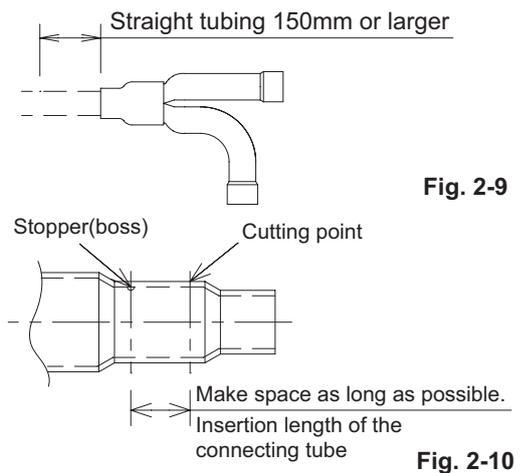

Fig. 2-9
- For branching tubes, install 150mm or larger (including reducer) straight tubing up to the point where the tube branches (or after the point where the tubes join together). (Fig. 2-9)